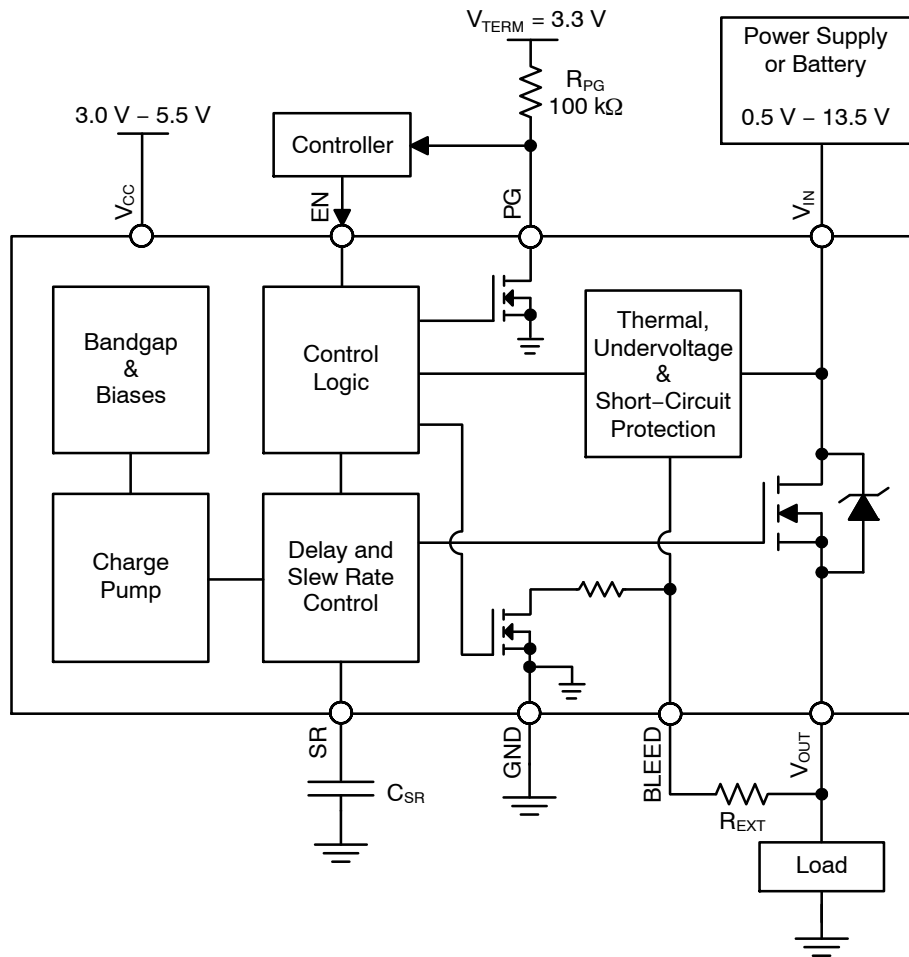
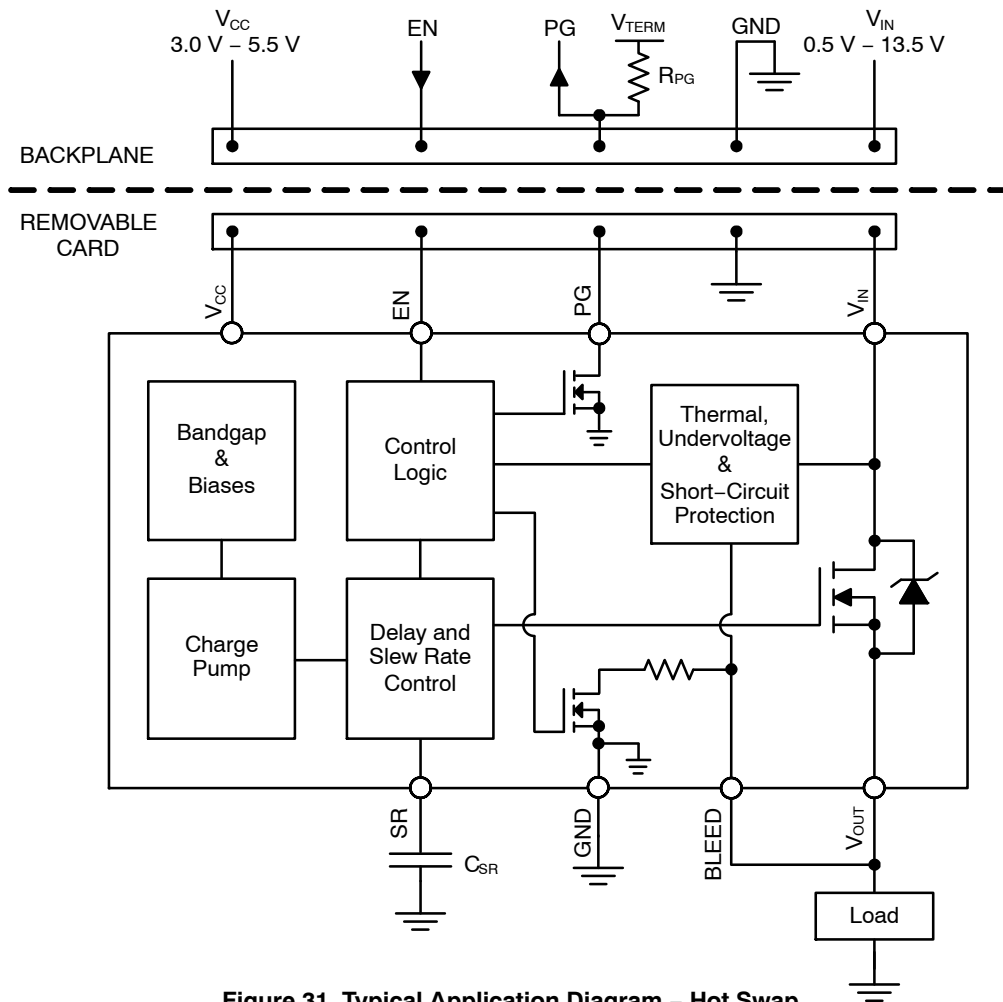

Figure 30. Typical Application Diagram – Load Switch
Figure 31. Typical Application Diagram – Hot Swap
It is required that the BLEED pin be connected to V_{OUT} either directly (as shown in Figure 31) or through an external resistor, R_{EXT} (as shown in Figure 30). R_{EXT} should not exceed 1 k Ω and can be used to increase the total bleed resistance.
The NCP45560 devices have a power good output (PG) that can be used to indicate when the gate of the MOSFET is fully charged. The PG pin is an active-high, open-drain output that requires an external pull up resistor, R_{PG} , greater than or equal to 1 k Ω to an external voltage source, V_{TERM} , compatible with input levels of other devices connected to this pin (as shown in Figures 30 and 31).
The slew rate can be decreased with an external capacitor added between the SR pin and ground (as shown in Figures 30 and 31). With an external capacitor present, the slew rate can be determined by the following equation:
Once active, the circuitry monitors the difference in the voltage on the V_{IN} pin and the voltage on the BLEED pin. In order for the V_{OUT} voltage to be monitored through the BLEED pin, it is required that the BLEED pin be connected to V_{OUT} either directly (as shown in Figure 31) or through a resistor, R_{EXT} (as shown in Figure 30), which should not exceed 1 k Ω . With the BLEED pin connected to V_{OUT} , the short-circuit protection is able to monitor the voltage drop across the MOSFET.